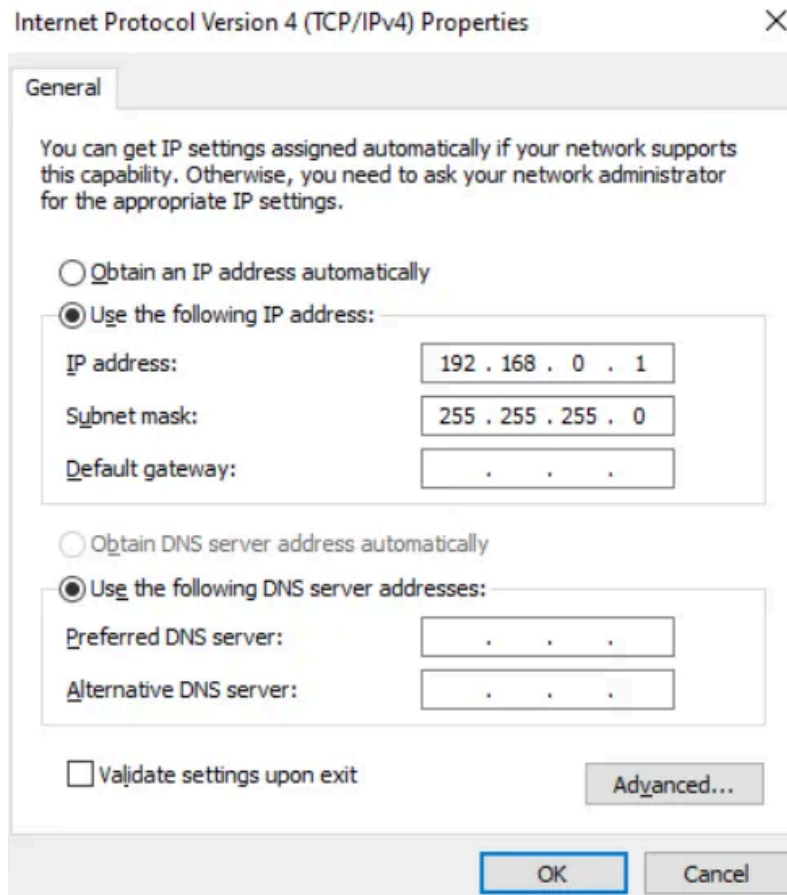

Fig. 2 – TCP/IPv4 properties window in Windows
3. Select Internet Protocol Version 4 (TCP/IPv4) from the component list. Ensure it's enabled (checkbox is checked). Click Properties. The TCP/IPv4 properties window opens (Fig. 2).